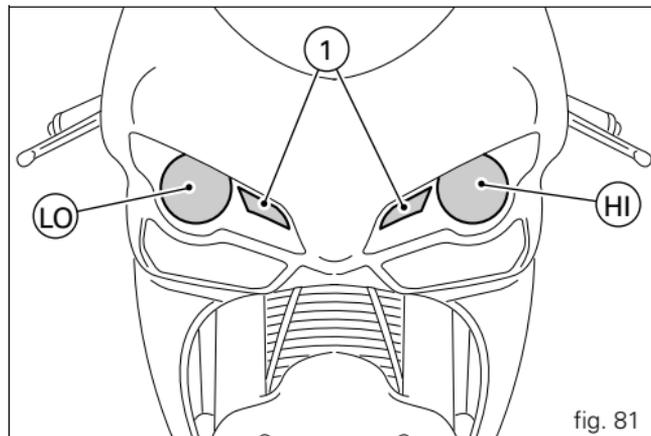

fig. 81
Before replacing a burnt-out bulb, make sure that the new bulb complies with the voltage and wattage specified in the "Wiring diagram", page 119. Always test the new bulb before refitting any parts you have removed. Shown in fig. 81 are the locations of the low beam bulb (LO), high beam bulb (HI) and parking light bulb (1).